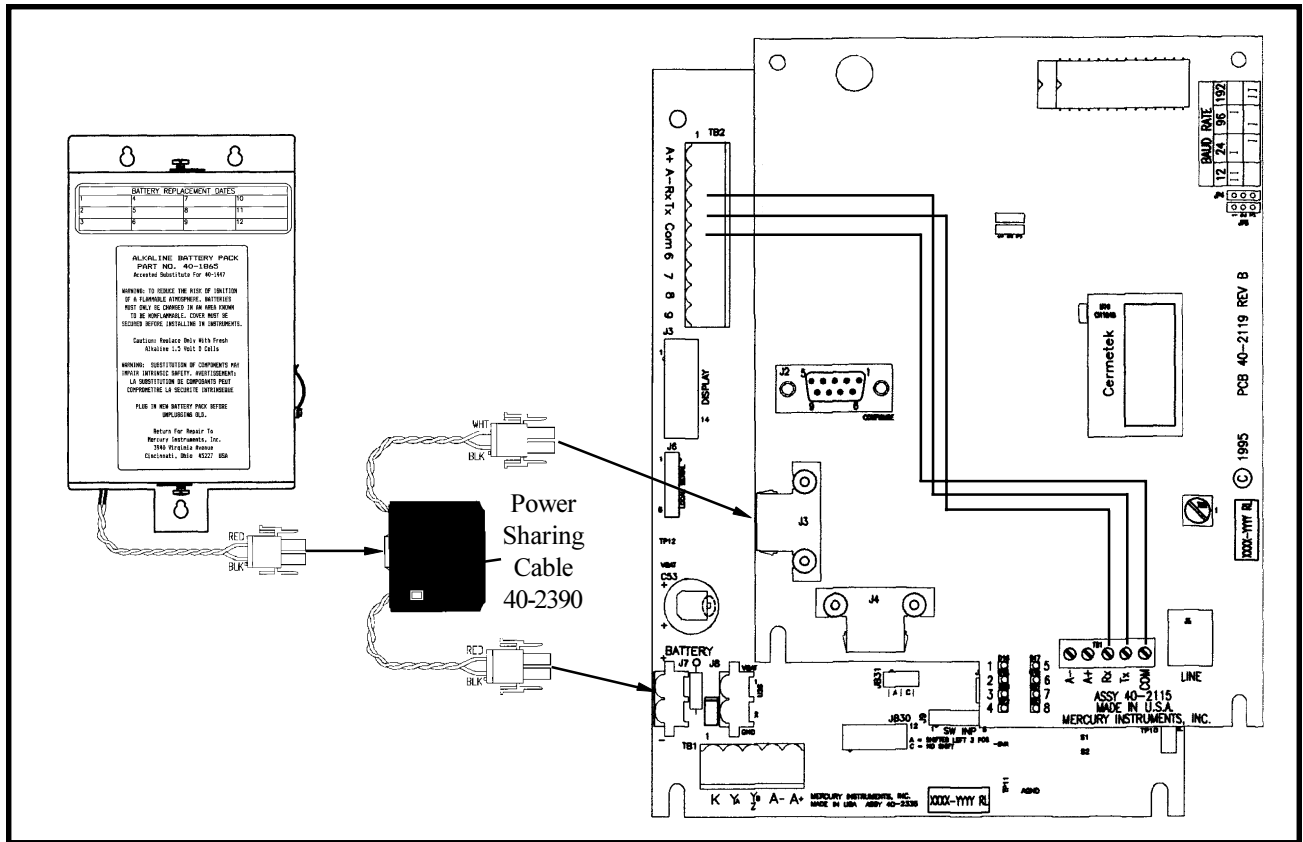

Figure 10
- 1) Plug the main battery cable into either J7 or J8, the white connectors on the lower left side of the main board. **See figures 10 and 11 on page 33 for power connections when an internal modem is installed.**
The Mini-AT is shipped with a jumper across two pins of JB900 (located in the top, central portion of the main board). The jumper must be on pins 2 and 3 to enable modem communications through terminal strip TB2 (see Table 4). **See figures 10 and 11 on page 33 for power and RS-232 connections when an internal modem is installed.**